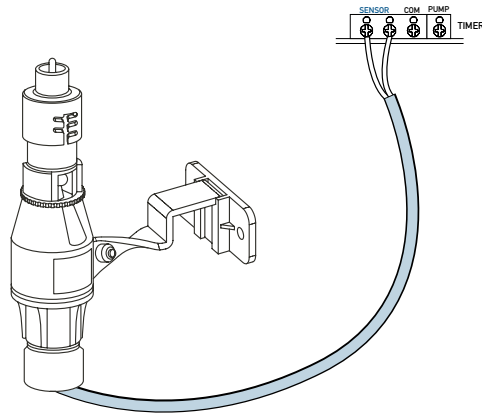

Figure A1: Connecting a Rain Sensor
- Connect the rain sensor wires to the wiring terminal ports (beige in color) labeled “Sensor” [See Figure A1]